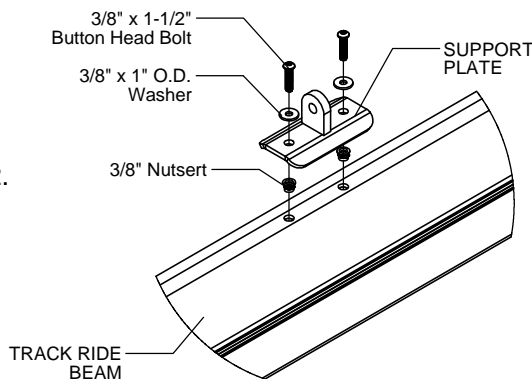

Figure 1.2
Drill (2) 17/32" holes spaced 4" apart centered on Track Ride Beam. Install Nutserts into Track Ride Beam and attach Support Plate as shown in Figure 1.2. (See Note A)